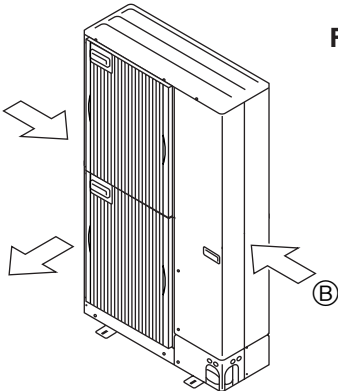

Fig. 3-4
- ③ Position the unit so that the air outlet blows perpendicularly to the seasonal wind direction, if possible. (Fig. 3-4)